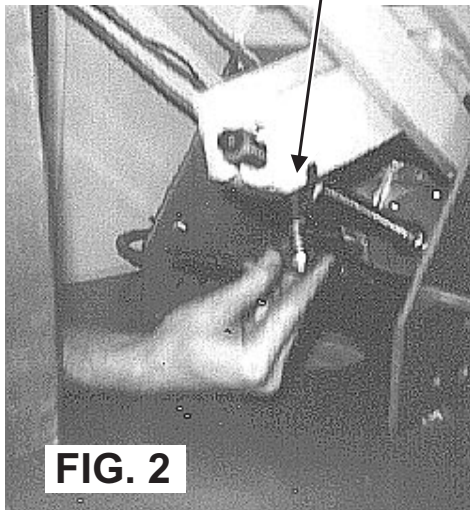

FIG. 2
3. Remove (4) #10-32 socket head screws and (2) retaining plates as shown in Figure 2. This will release the trunnion block at one end of the motor shaft.